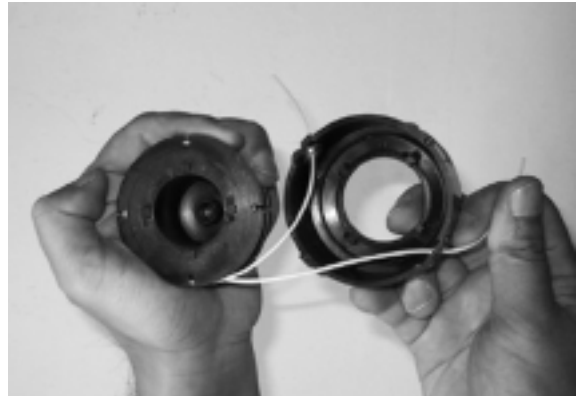

Fig. 20
7. Insert the line through each eyelet in the spool carrier and slide the spool into the carrier. (Fig. 20)